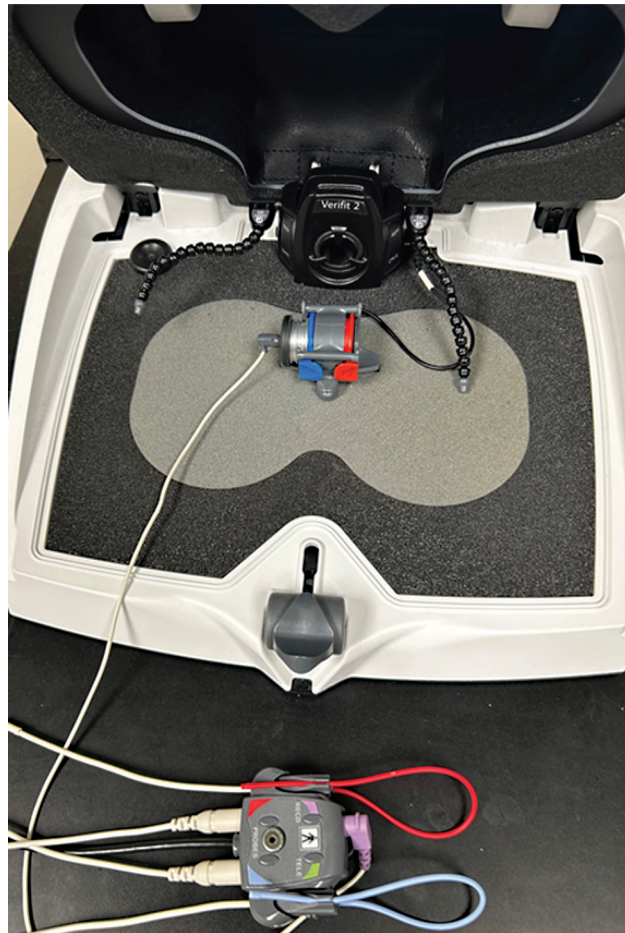

Figure 5 RECD transducer from the probe microphone assembly, attached to the left coupler in the test box.
1. Level ("calibrate") the probe microphone system using the procedure described in Activity 1. Make sure your graph is similar to the graph displayed in Figure 5.
- receiver-in-canal [TRIC] adapter) that fits over the silver coupler (use the left side, see Figure 5).